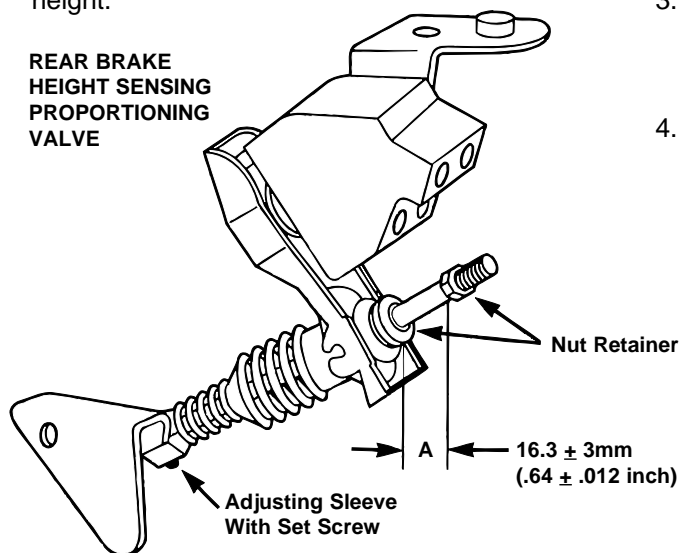

Figure 1
2. Measure distance "A" (see Figure 1) between the operating rod upper nut and the retainer in the valve lever. The distance for a nominal setting should be 16.3 & .3mm (.64 & .012 in.). If the distance is outside of these settings, the valve should be adjusted as follows:
2. Loosen set screw in adjusting sleeve (see Figure 1).